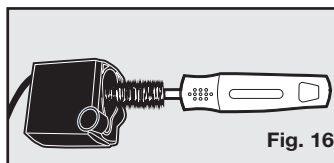

Fig. 16
5. Once the pump is completely disassembled, you can clean the parts with warm water and soap. Use a cotton swab or the “motor brush” from the Drinkwell® Cleaning Kit to clean inside the pump’s motor cavity and remove any build-up (**Fig. 16**). For added disinfecting and hard water removal, clean the pump’s motor with a diluted white vinegar solution (20% white vinegar and 80% water).